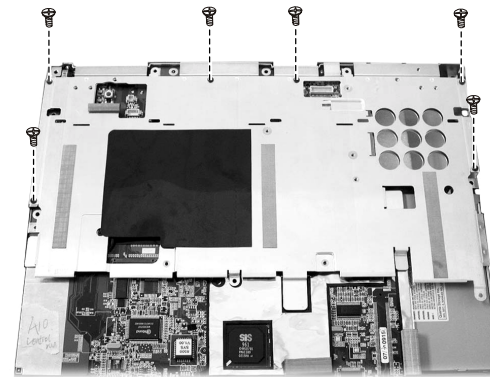

Figure 2-23 Remove the plate shield
5. Remove the six screws fastening the plate shield. (Figure 2-23)